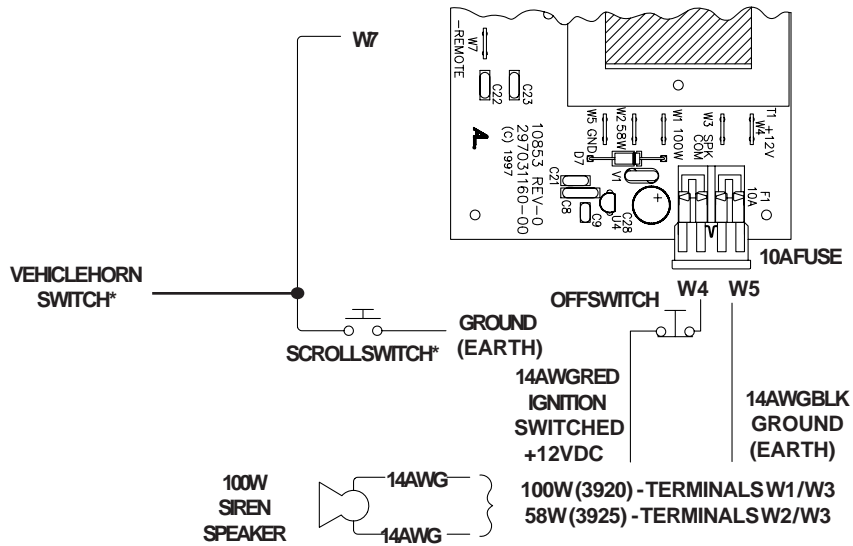

FIGURE 2
The 3920 siren provides six 1/4" Quickslide connections on the printed circuit board for power, control and speaker connections. Each printed circuit board connection is clearly marked for easy identification. Wiring connections are shown in Figure 2.
The Model 3920 siren is remotely controlled either from the siren's control panel, SCROLL switch or (if connected) the vehicle's horn switch. The siren tone will change each time the control switch is pressed (Wail, Yelp, HyperYelp). The siren will change to "Air Horn" mode if the control switch is held. From the Standby mode a short momentary push on the control switch will produce the wail siren tone. With each successive momentary signal on the remote input line, the siren scrolls to the next tone. The normal sequence of tones is: Wail, Yelp and HyperYelp. Holding the switch for a prolonged period will produce "Air Horn". Each push on the vehicles horn switch will also sound vehicles horn as wired in Figure 2. It is recommended that customers use auxiliary switch and horn transfer relay(both optional equipment).
*The -REMOTE (W7) input is compatible with most ground switched vehicle Horn Ring switches and may, optionally, be connected as shown in Fig 2. This allows the siren to be operated by depressing the vehicle's horn switch. A quick, sharp tap on the horn will turn the siren on. Additional taps will scroll the siren to the next tone. Depressing the horn for a longer period will produce "Air Horn". When using the vehicle's horn switch to control the siren it is recommended that the vehicle's horn switch be routed through a transfer relay (not included). This will allow the normal operation of the vehicle horn to be interrupted while the siren is in operation.